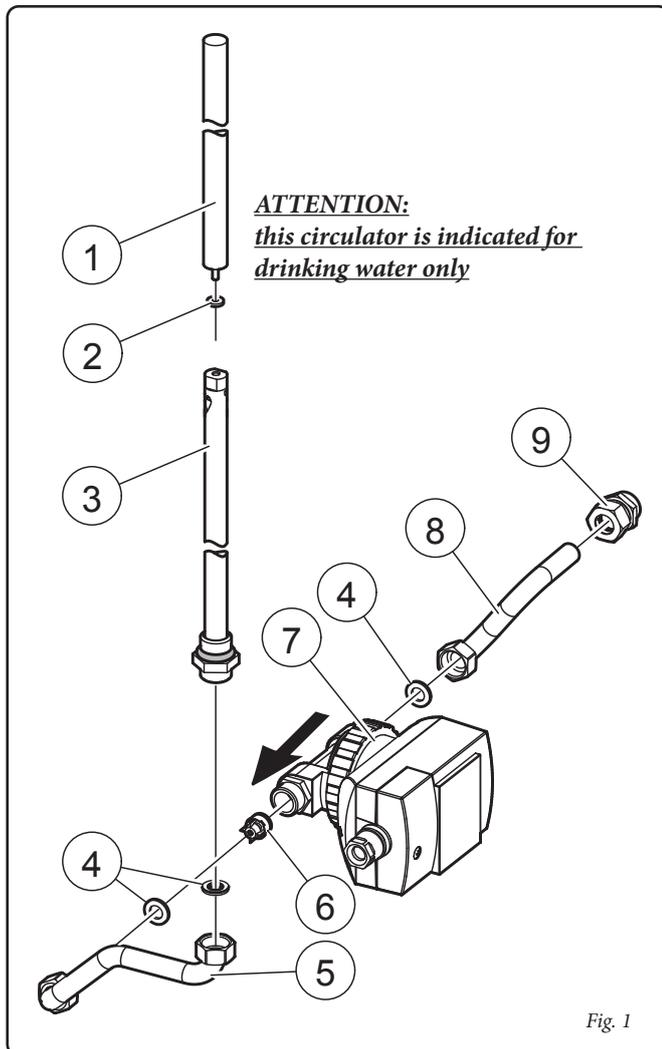

Fig. 1
**Attention:** the pump must be connected to the power supply according to the indications provided and must follow the circulation direction as indicated by the arrow in figure 1.